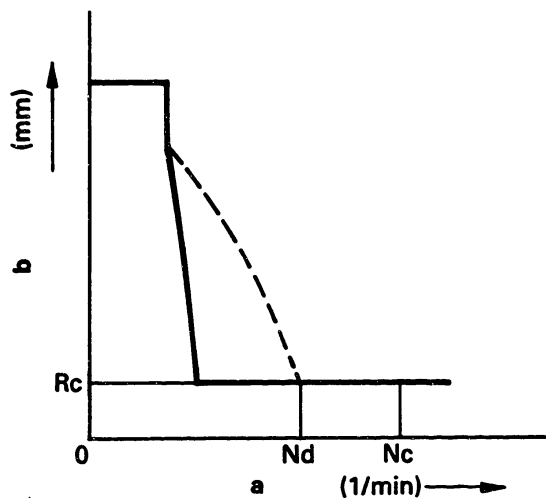

Fig. 79
2. Make adjustments by means of idling adjustment screw (50), so that control rack position corresponds with "Rc". (Figs. 79 and 80)